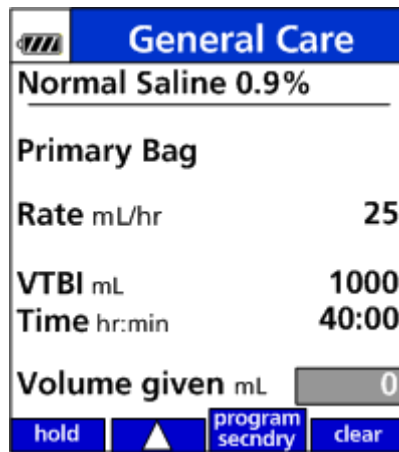

Figure 63. HOLD Soft Key.
2. To place the pump in standby, press the **HOLD** soft key. (See Figure 63.)